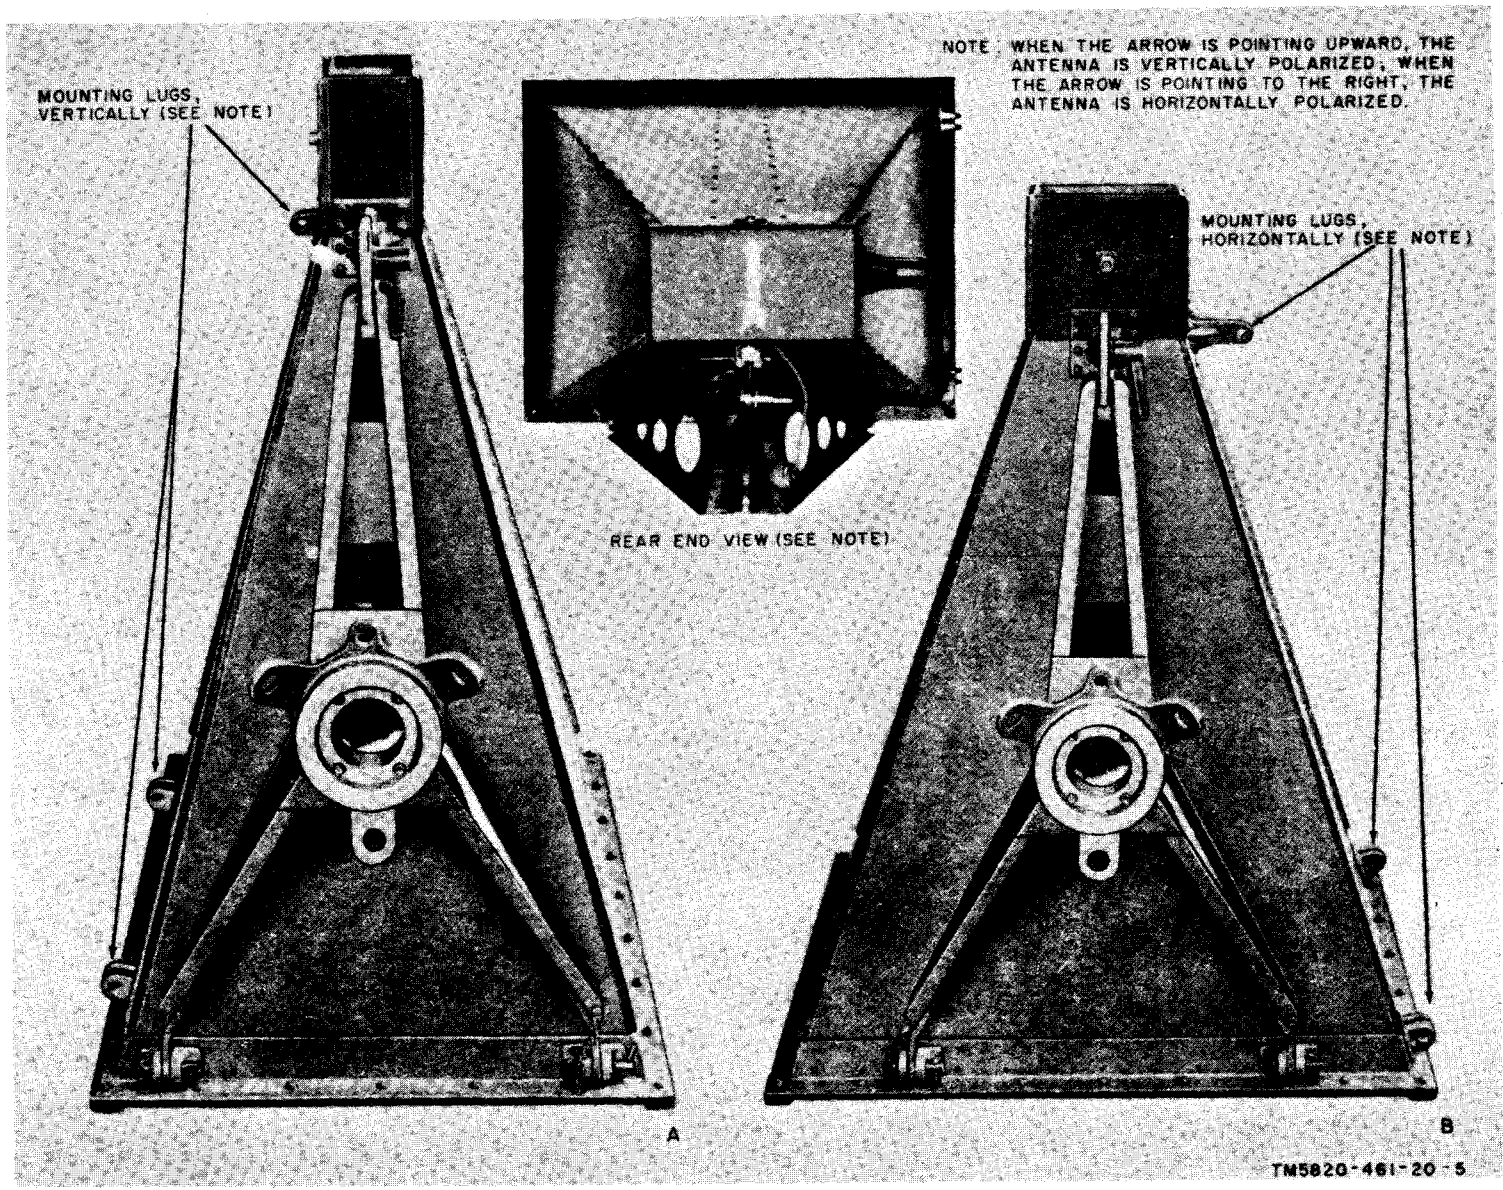

Figure 2-4. Antenna AT-903/G, mounting details.
(figs. 2-4 and 2-5)
Antenna AT-903/G is provided with a removable three-legged mounting frame (fig. 2-4), which is attached to the antenna horn for either horizontal or vertical polarization, and also provides for adjustment of the angle
a. *Polarization Adjustment* (fig. 2-4). Note that for vertical polarization the mounting